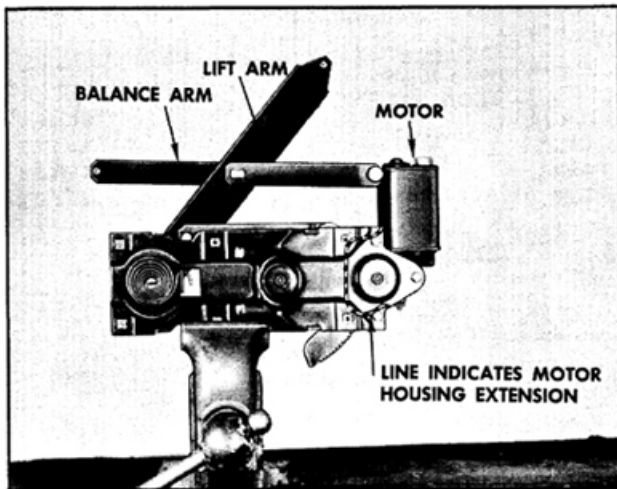

Fig. 16-344 Regulator and Motor Assembly
2. Drill a 1/4" hole through back plate and sector gear at a location dependent upon position of lift arm. Do not drill into motor housing. (Fig. 16-344)